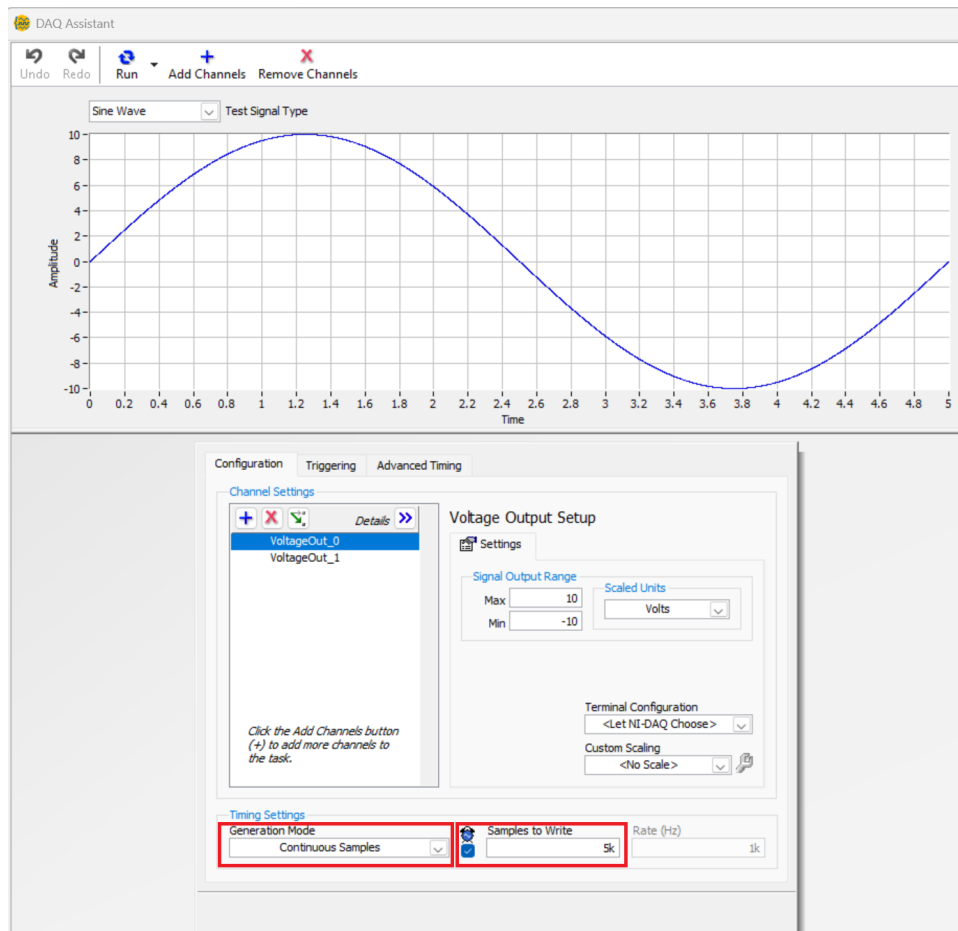

Figure 3: DAQ assistant setup
4. When setting up the DAQ assistant select "continuous Samples" in Generation Mode and write the number of sampler to write depending on your hardware capabilities. In the example shown in Figure 3., the samples to be written were set as 5K samples, since a NI-USB 6003 was used for this example.